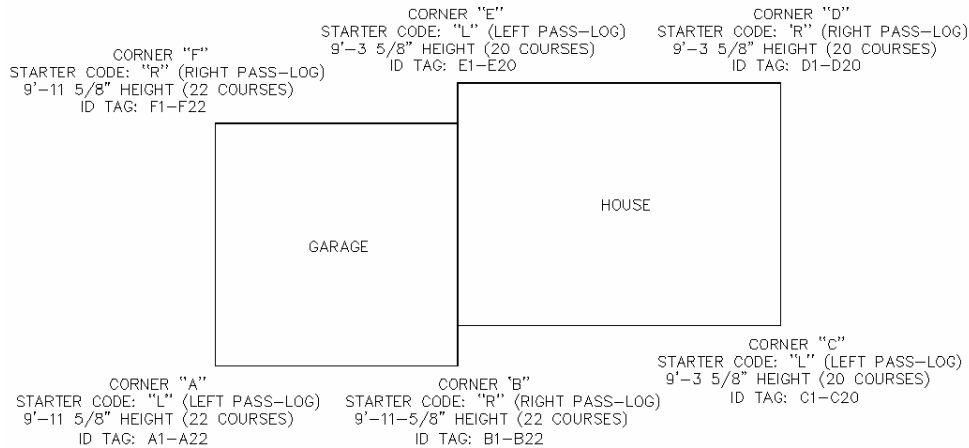
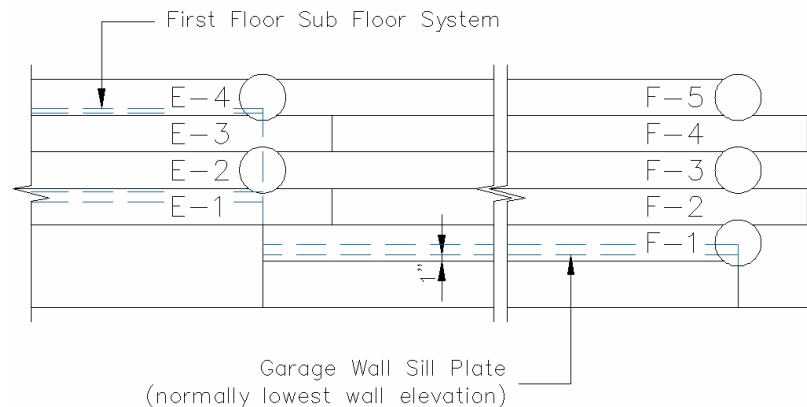

Figure 2
Figure 3
3. Once the corner layout is decided, you will need to figure out how many courses are needed per corner. This can vary from siding to siding because of the varying stack heights of each. The quantity of corner courses is figured out by measuring 1" (minimum) below the bottom of the sill plate to the highest point to where you want the Full Round Log Corners to extend. Take this height and divide it by the Stack Height (refer to Actual Height on Siding Specifications sheet) of the log siding selected to give you the number of corner courses required (see Figure 2).
**Note:** The log course identification number of one course may differ from another courses identification number in the same row. (Example: In corner "E" row 1 (E1) the course number in the opposite corner is corner "F" row 2 (F2) (see Figure 2). This may be true if house has a sunken floor system, attached garage, or any other reason for a change in elevation (see Figure 3).